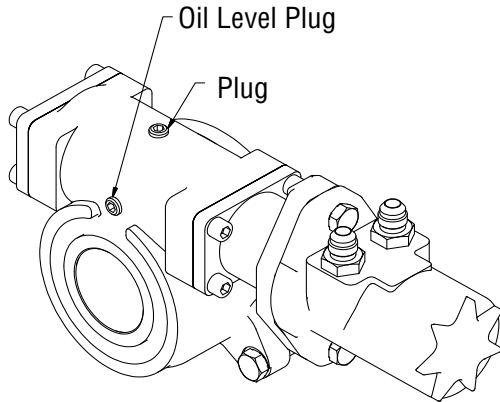

Figure 5-23, Gearbox Oil Plugs
1. Remove the top plug and the oil level plug from the gearbox. (Figure 5-23)